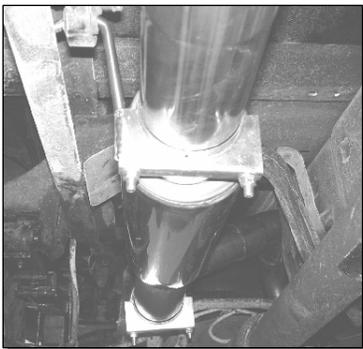

Figure 7
- Install the **Muffler** over the **Extension Pipe**. Install the **Hanger Clamp** at the connection between the **Muffler** and the **Extension Pipe**. **See Figure 7.**